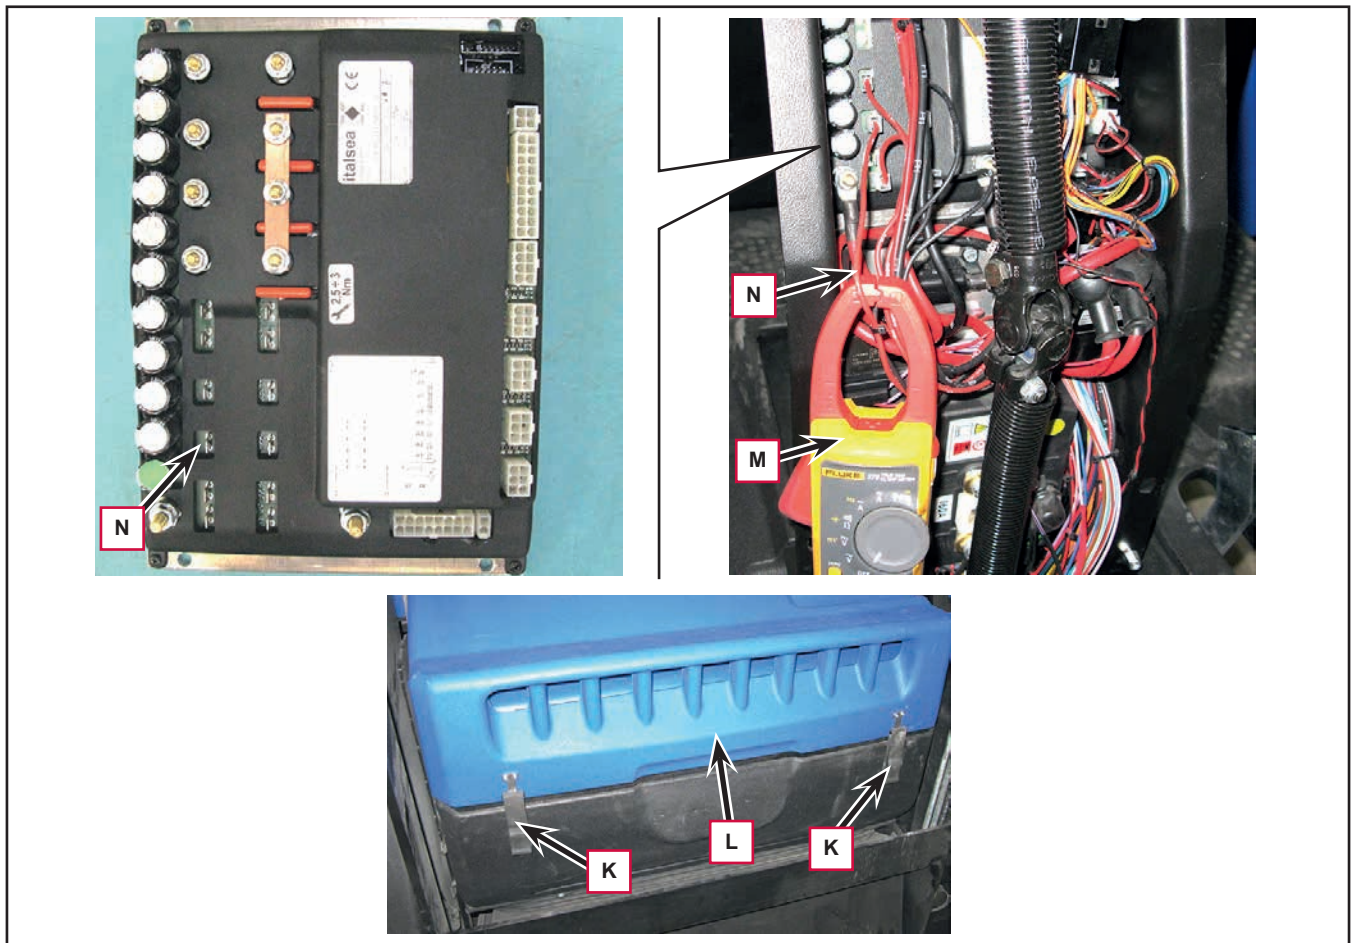

Figure 6
9. Release the fasteners (K, Figure 6) then lift the vacuum system cover hood (L) all the way.
10. Apply the clamp ammeter (M) on one cable (N) of the electric vacuum fan.
- Remove the clamp ammeter (M).